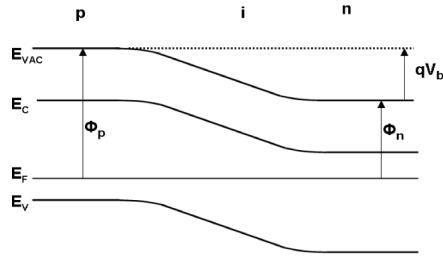

Figure 75: Schematic of a p-i-n junction
**Definition 4.14.** A p-i-n junction is a junction in which an *intrinsic layer* is sandwiched between a p-layer and n-layer. A typical p-i=n junction was illustrated schematically in figure 75